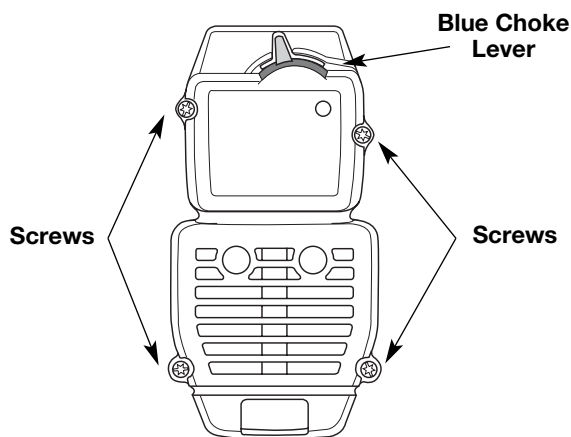

Fig. 24
- Remove the four (4) screws securing the air filter/muffler cover (Fig. 24). Use a flat blade or T20 Torx bit screwdriver.
- Insert the four (4) screws into the holes in the air filter/muffler cover (Fig. 24) and tighten.